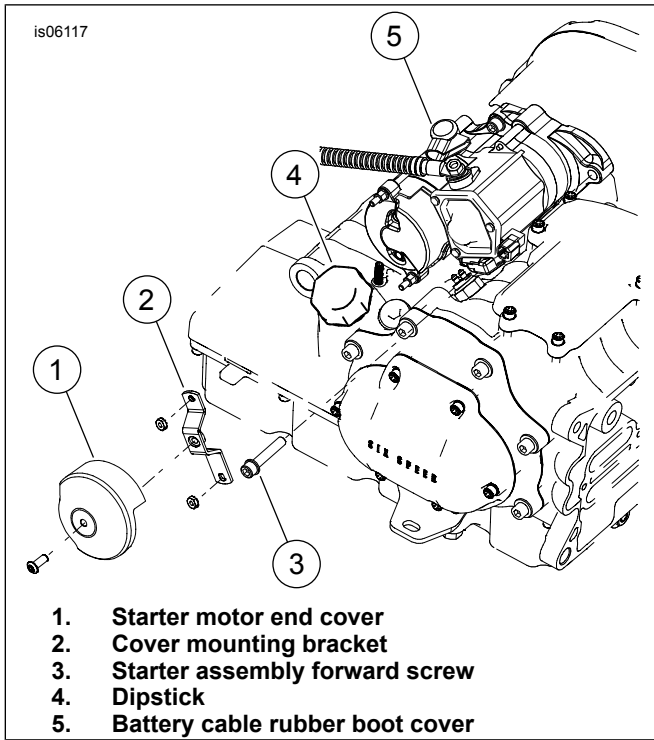

Figure 3. Remove Components
4. See Figure 3. Remove starter motor end cover (1) and cover mounting bracket (2). Save nuts.